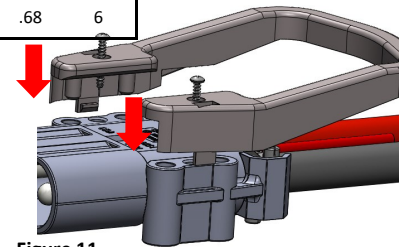

Figure 11
11. Install the optional handle on the top (polarity mark side) of the housing (Figure 11):